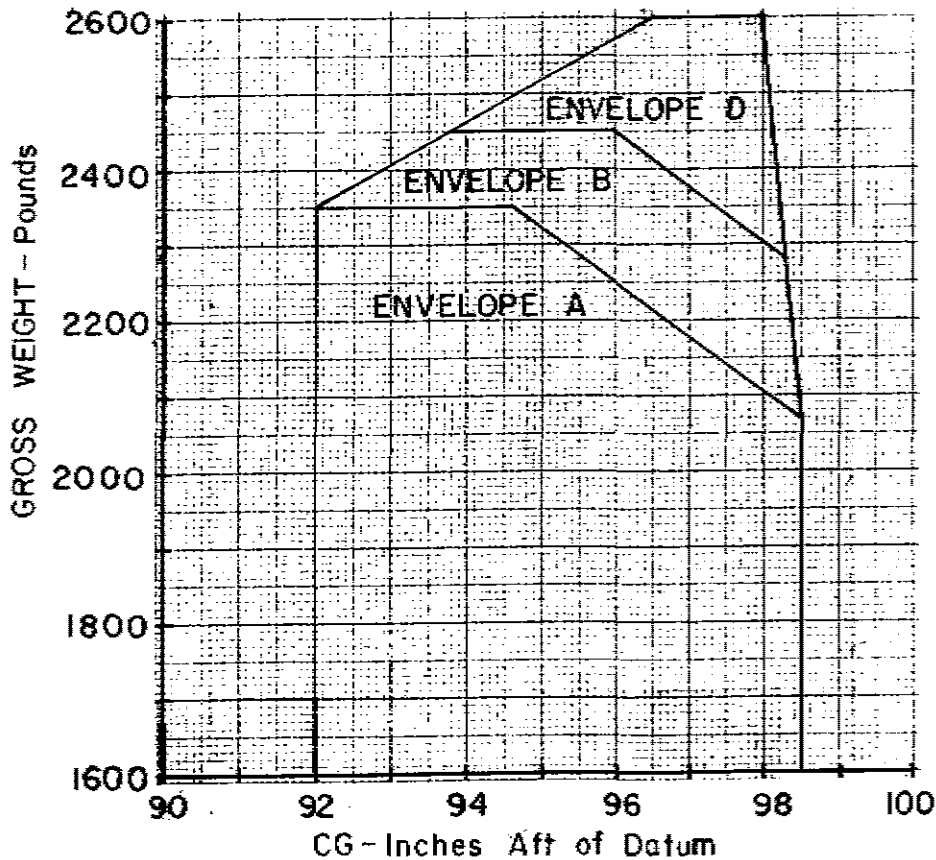

FIGURE 10.2.3
- A. There are three gross weight/c.g. envelopes for this helicopter with floats installed. See Figure 10.2.3. Each envelope corresponds to one of three  $V_{NE}$ /altitude envelopes as described in paragraph 2-II of this supplement. See also Figure 10.2.1.